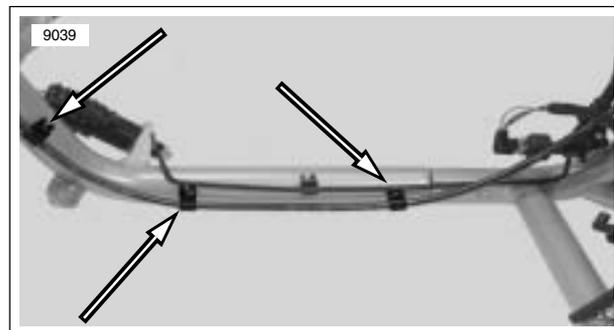

Figure 2-35. Clutch Fluid Line Clips
4. See Figure 2-35. Remove clutch fluid line from clips on frame.